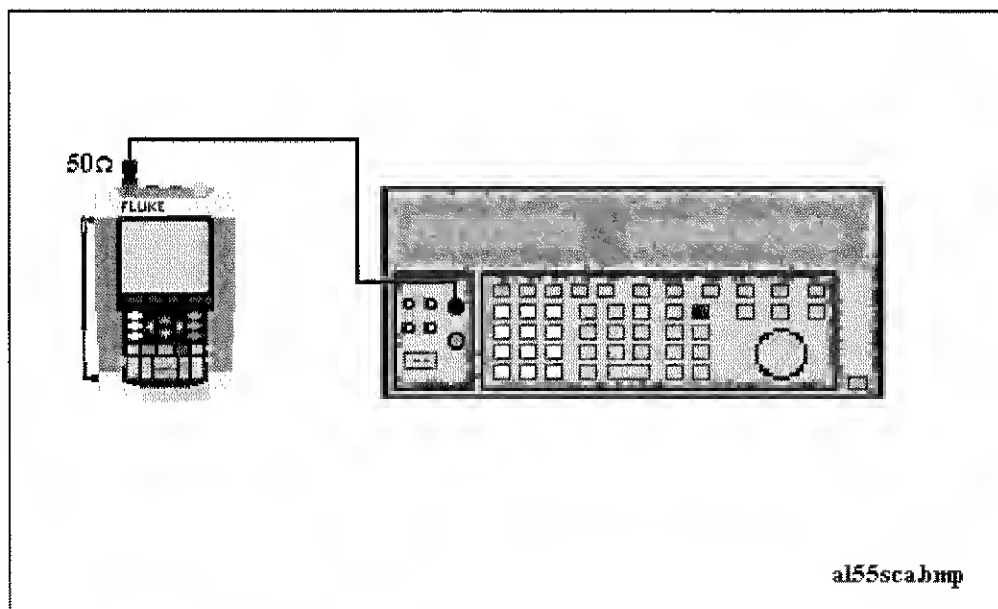

Figure 4-5. 5500A Scope Output to Test Tool Input A
1. Connect the test tool to the 5500A as shown in Figure 4-5.
1. Connect the test tool to the 5500A as for the previous test (see Figure 4-5).